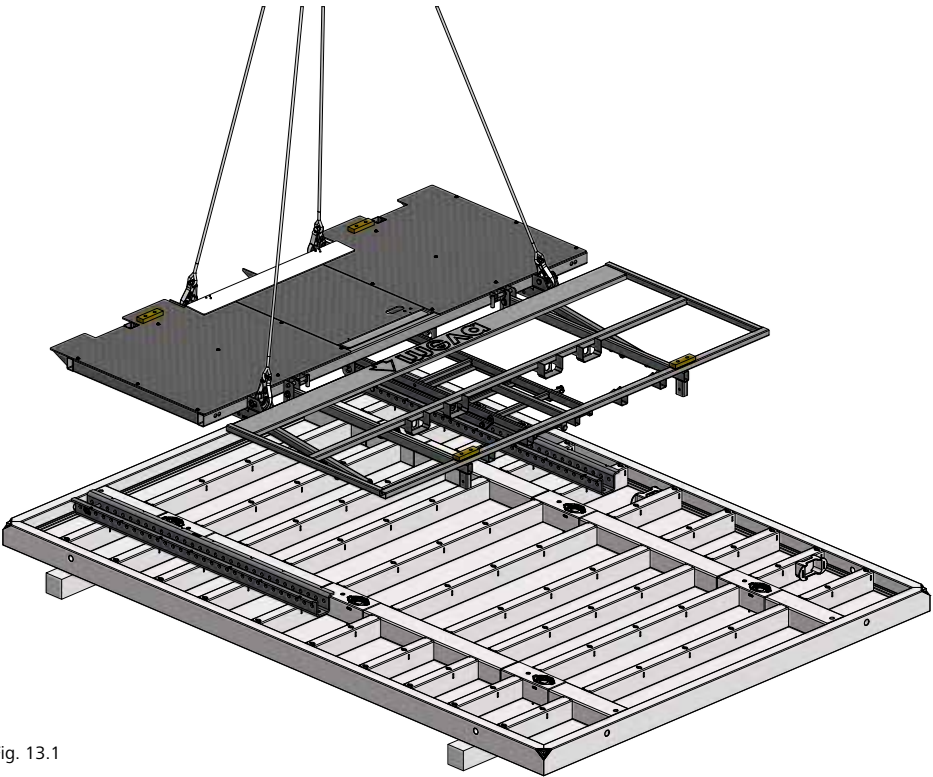
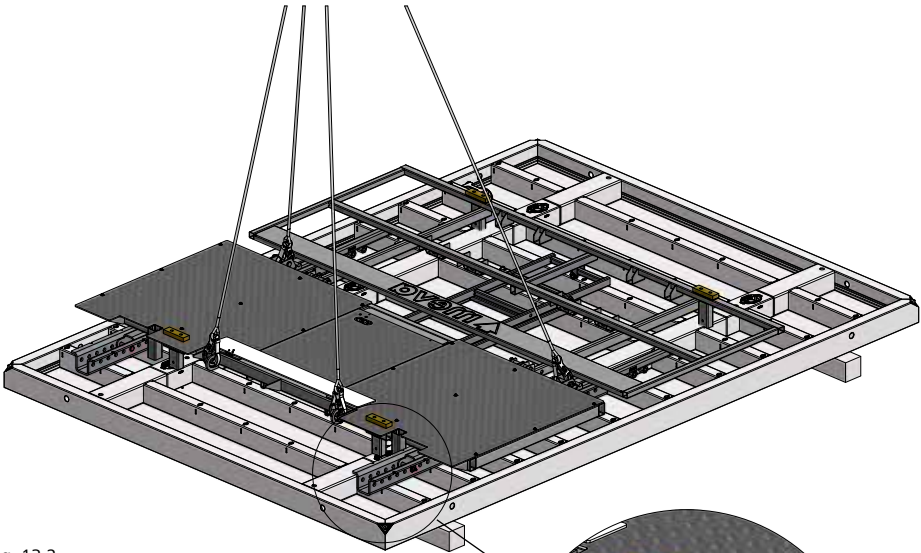

Fig. 13.1
Fig. 13.2
- 6. Place the MIS platform on the linkages (Fig. 13.1) and secure it in the planned position using the top two attachment points (front edge of the platform) with the integrated head bolts 16/90 (Fig. 13.2). For the correct position refer to page MIS-11 Table 11.6.